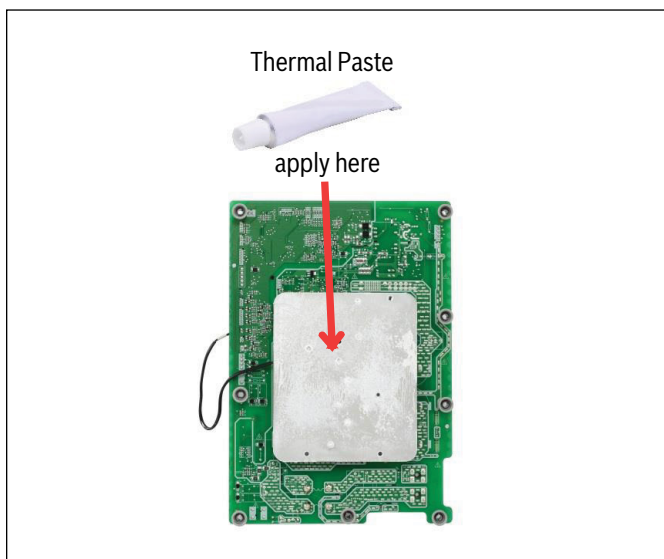

Figure 8
8. Apply the thermal paste on the heat sink of the new control board (refer to Figure 8).